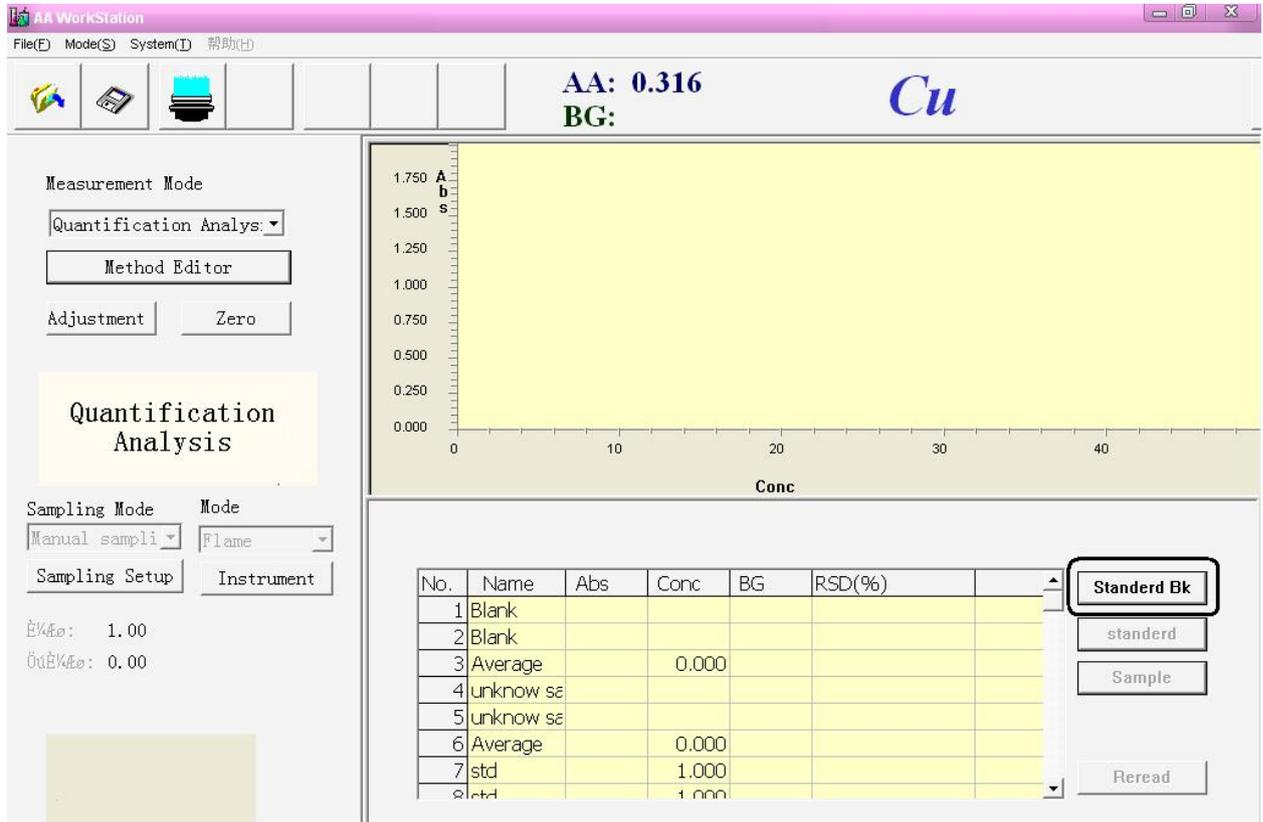

Figure 5-23
7. Press 【OK】, close the dialog, "Standard Bk" brighten, figure 5-23